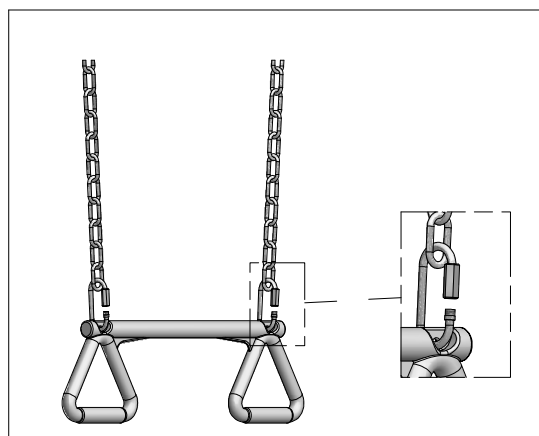

FIG. 3
ATTACH TRAPEZE TO (2) FW CHAINS USING (2) FA QUICK LINKS. (FIG. 3)